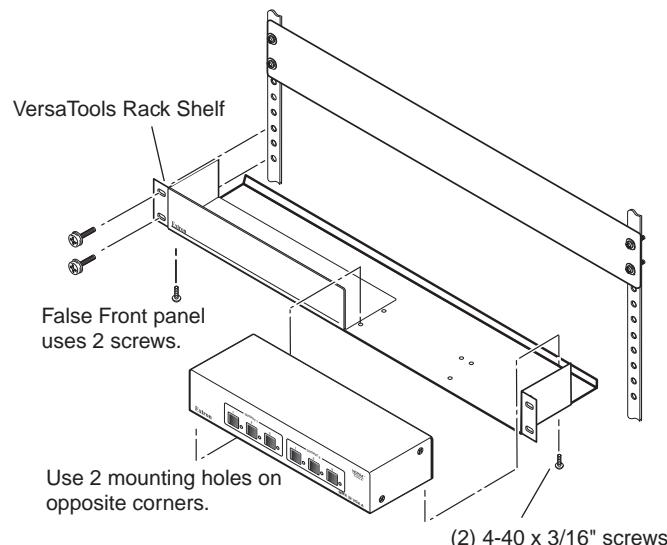

Figure 2-1 — Mounting the MMX 32 VGA A on a VersaTools rack shelf
- VersaTools® 19" 1U rack shelf kit (part #60-190-20) (figure 2-1)